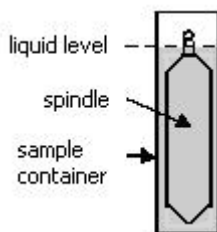

Fig. 14: Full APM adapter.
- Close the sample (K) container with the stopper (M).
- Insert the container (K) to the lower part, in the circulation jacket (J) by turning it gently.
- Fasten the circulation jacket (J) to the connector (G)
- Connect the hook (H) and the spindle (L)
- Insert the spindle (L) in the circulation jacket (See the note * below)
- Fasten the connector (G) to the hole in the back of the viscometer's metallic base (**See the note ** below**)
- Check the level of the sample. It should be approximately in the middle of the cone, which is connected to the spindle connector (H). Figure 14 shows more information about this.
- Place the upper stopper (N) over the sample container.